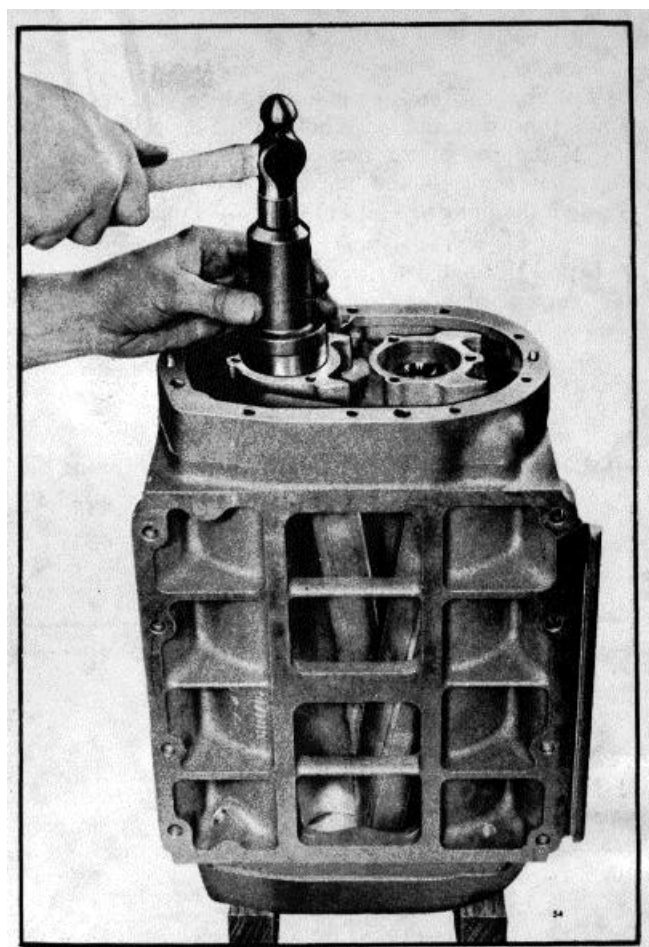

Fig. 13 - Installing Roller Bearing on Rotor Shaft and in Front End Plate using Tool J 6270-4.
- b. Place installer J 6270-4 on top of the bearing and tap the bearing on the shaft and into the front end plate as shown in Fig. 13.